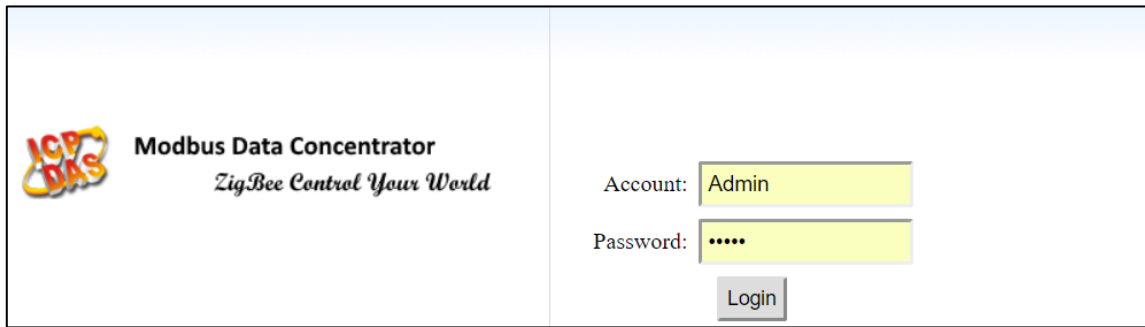

Figure 2.4 Product Login Page
Step1 Once the PC and MDC-211-WF are in the same LAN, user can login the MDC-211-WF by entering the IP address on Web browser (IE11/Chrome/Firefox, resolution 800 x 600 or more is recommended), the login screen is shown as Figure 2.4: